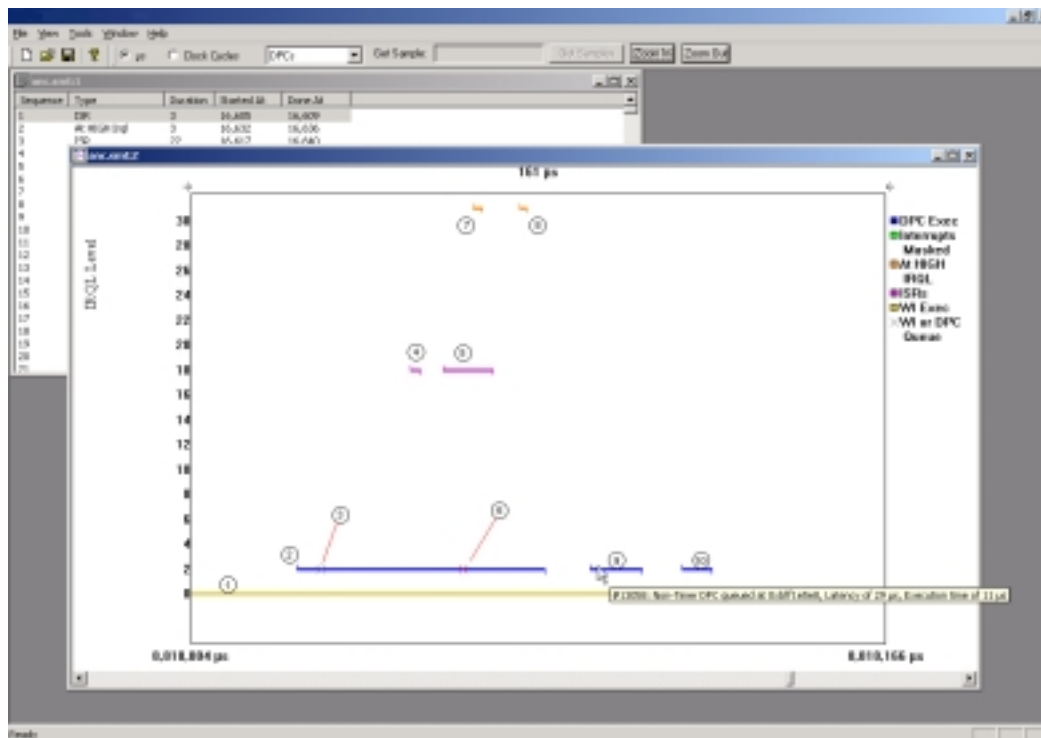

Figure 4. Close-up View of a Sample Data File
Figure 4 shows a zoomed in view of the same data file. The window is now only 161 μ s wide. At the bottom of the window (1) is a Work Item that has been active since before the left side of the window and will continue to be active past the right side of the window. Work Items run at the lowest priority of any kernel-mode code and thus are preempted by all other items that the performance analyzer records. On this view, a Timer DPC (2) started approximately at the 20 μ s mark. Either the Timer DPC or an unrecordable ISR that preempted it queued a DPC (3) about 5 μ s into it. The DPC was preempted by an ISR (4) at IRQL 18, which ran for about 2 μ s. A second ISR (5) came in about 4 μ s later. This second ISR queued another DPC (6) and then for a short time raised the IRQL to 31 (7). After that ISR finished executing, the IRQL was raised again for a short period of time (8). Not long after that, the DPC that was queued at (6) began executing (9), and when the DPC was completed, the DPC that was queued back at (3) began executing (10). The DPC (10) executed after (9) because it was a lower priority even though it was queued first. In this example, (9) is associated with (6) because the X at (6) turns red when the pointer is over the bar at (9). When this data file was recorded, Interrupt Delay information was not gathered. Had it been gathered, they would have appeared across the bottom of the graph, just below the work item at (1).